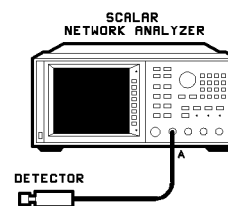

Figure 5-1. Coarse Zero/Feedthrough Nulling Adjustment
1. Connect the equipment as shown in Figure 5-1 with no input to the detector.
Connect the equipment as shown in Figure 5-1.